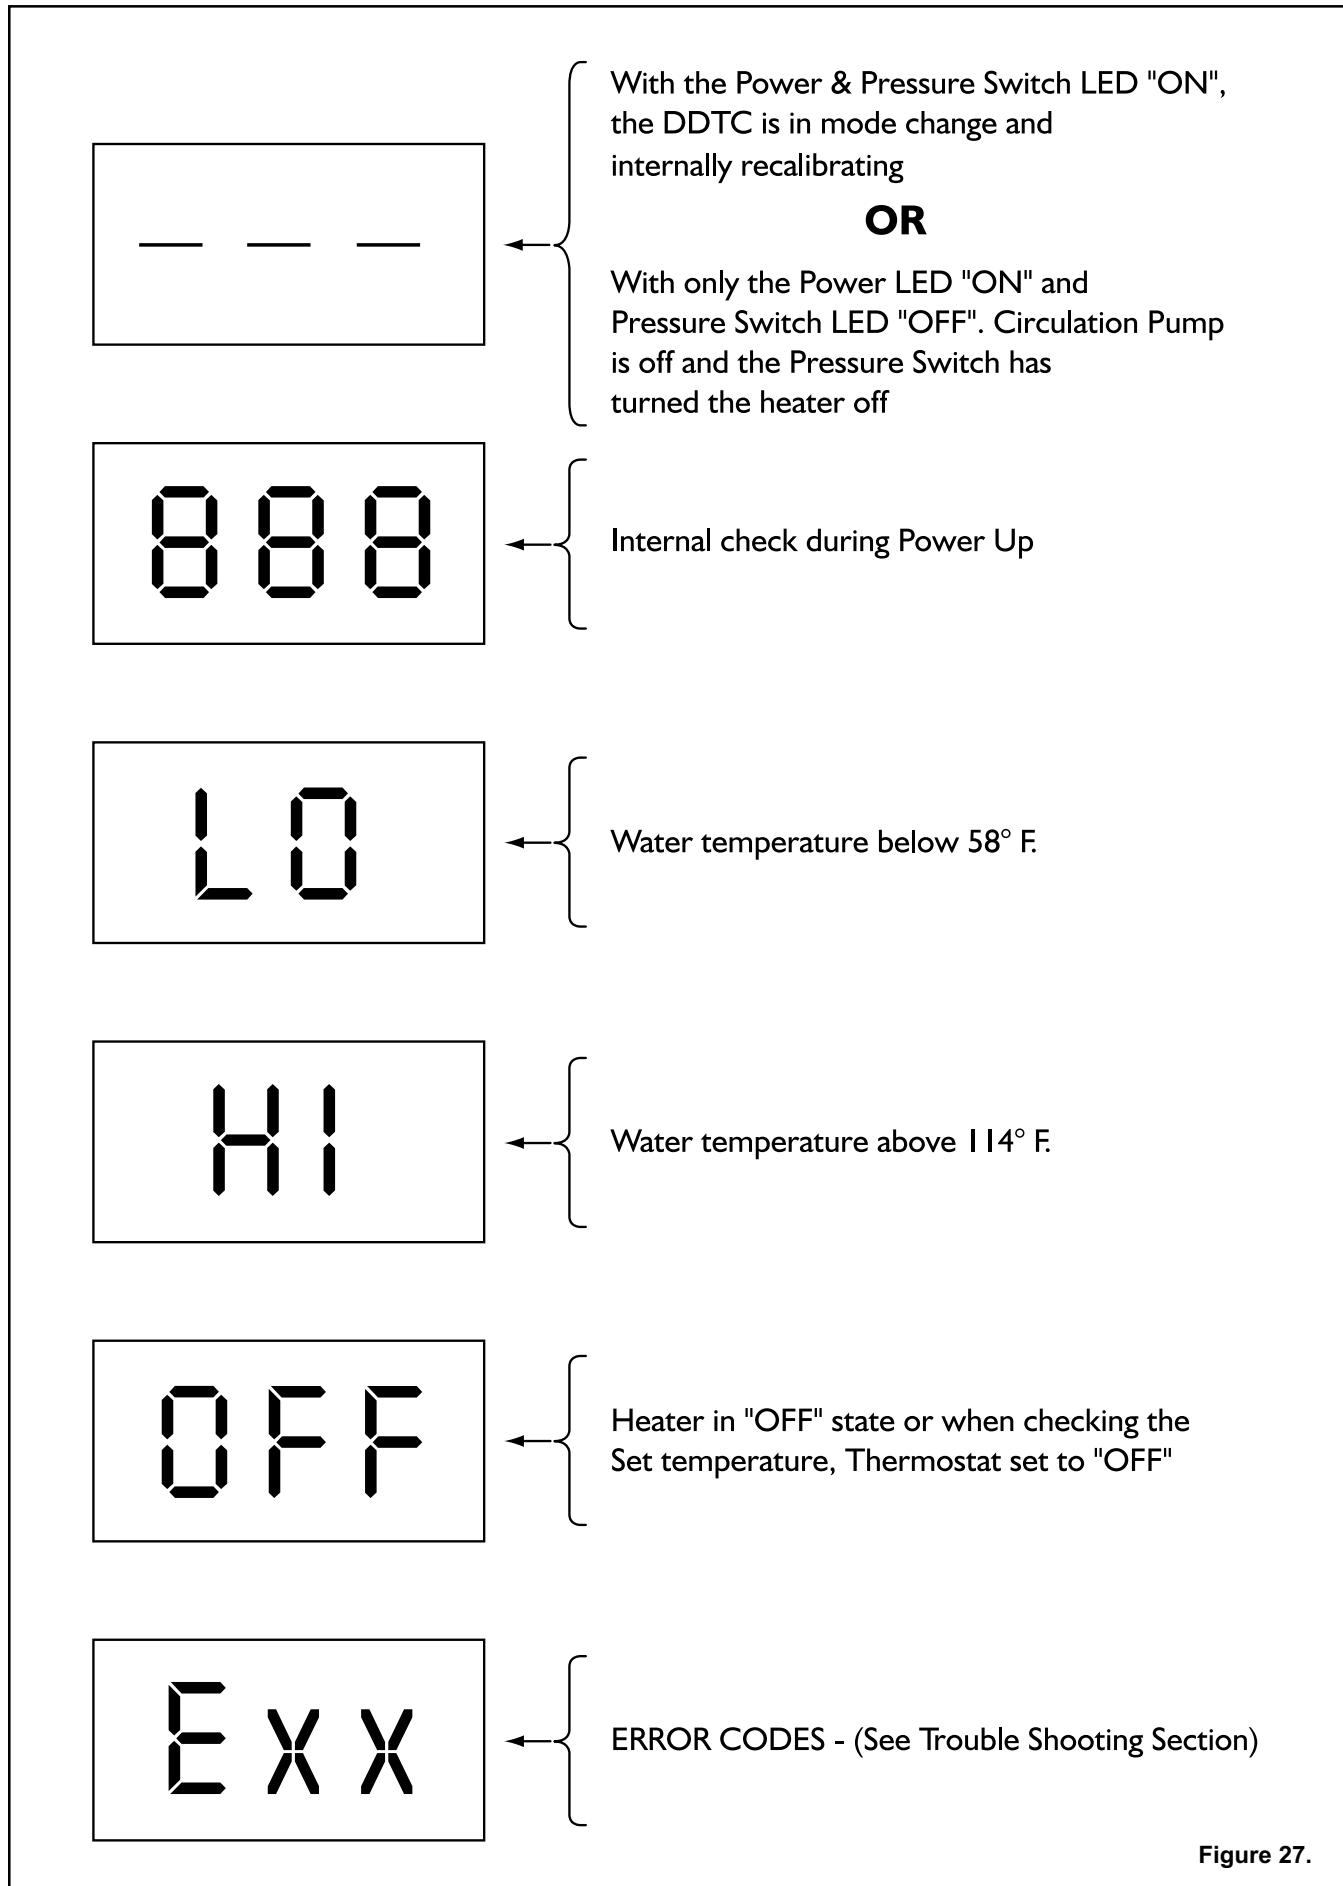

Figure 27.
The MiniMax NT Heater comes from the factory preset with a pool temperature setting of 78° F. and a preset spa temperature of 100° F., and in the off mode setting. Once the power is turned on, the DDTC board will do a self diagnostic internal check, during this time the display will first read “888”, then the display will switch to three dashes “---”, this process takes approximately ten (10) seconds. The DDTC will then illuminate the “Power” LED and “Off” LED, see Figure 27.
The DDTC temperature display contains three LED's with a decimal point between the first and second, this display is also used to display an error code if for some reason there is a failure within the heater control system or a DDTC internal fault. The DDTC will display the actual temperature or set-point temperature or OFF, as selected by the user. When DDTC detects an error, the display will show Exx, see Figure 27, where Exx is the error code of DDTC fault, see Table 13. Codes 1 through 9 indicate a "soft lockout" error that means after these errors are fixed, the heater will resume normal operation and restart immediately. Code ERR indicates a "hard lockout" error that means after these errors are fixed, you need to reset the power of the heater through the switch on the bottom of the electrical junction box on the right side of the cabinet.